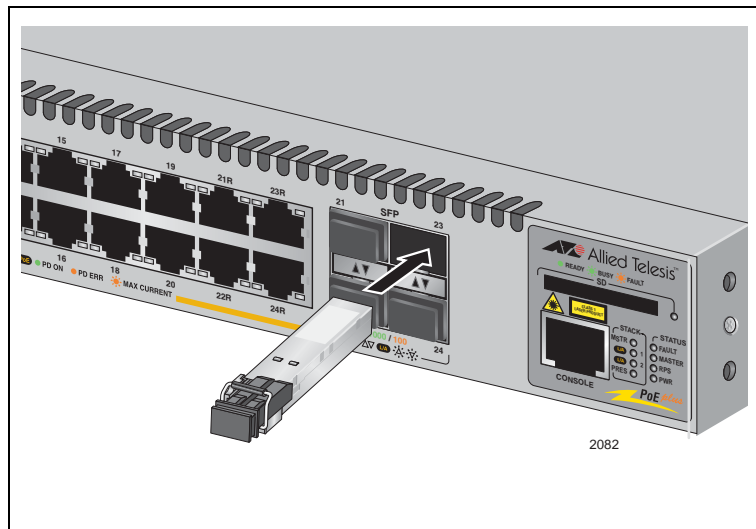

Figure 53. Installing a Transceiver
4. Slide the transceiver into the slot until it clicks into place, as shown in Figure 53.